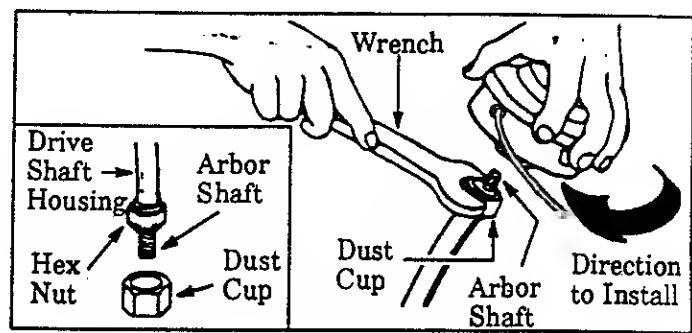

Figure 4
- a. Place the Dust Cup on the Drive Shaft Housing over the hex nut that is assembled on the arbor shaft. Figure 4.
- c. Thread the Trimmer Head onto the Arbor Shaft against Dust Cup and tighten firmly. Figure 4.